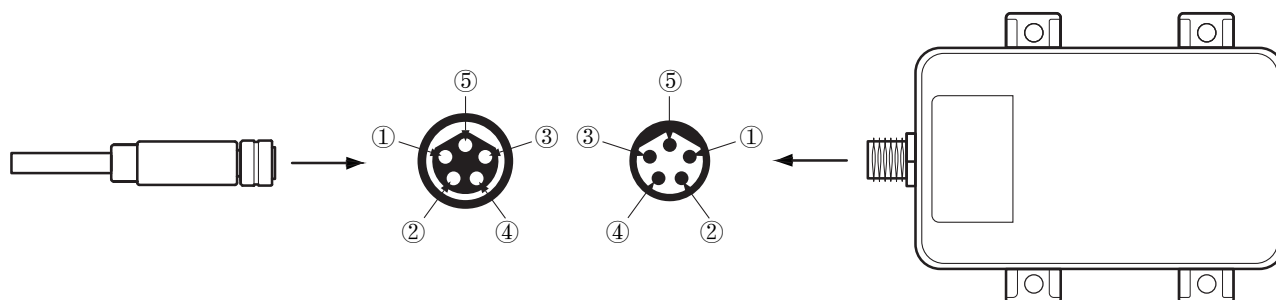

Figure 7. The aviation cable and product connector diagram
As shown in Figure 7, the interface is type B. Pay attention to the limit direction. Align the cable port ⑤ with the corresponding product interface port ⑤, then insert and tighten.